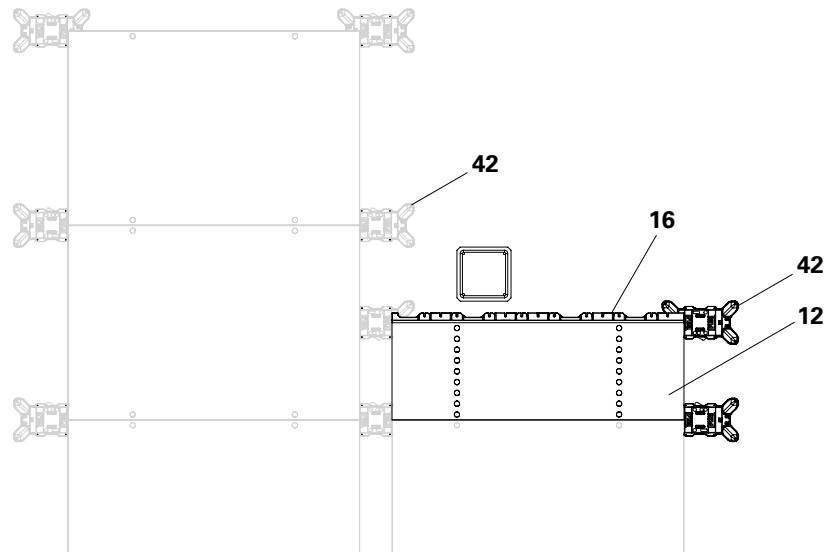
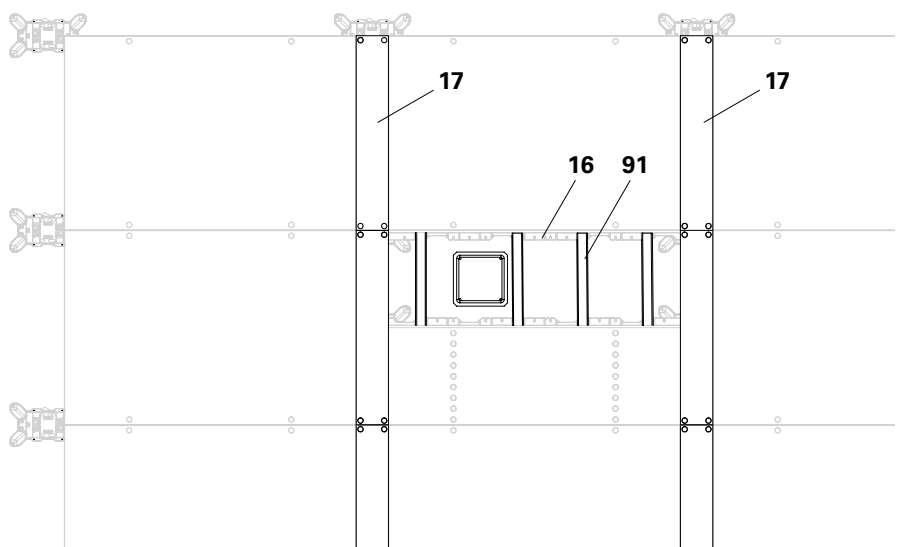

Fig. D3.10
Fig. D3.11
1. Use backpropping heads (42) instead of DFH propheads.
2. Hook DP panels with filler supports on both sides in the compensation areas on props with backpropping heads. (Fig. D3.10)
3. Insert square timber (91) in every possible position in the 18 DFS filler support (16).
5. Hook DFP filler panels (17) on backpropping heads from above. (Fig. D3.11)